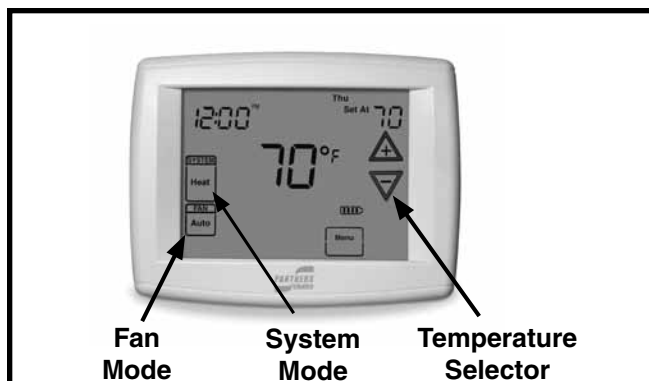

Figure 1. Digital Thermostat
1. Set the thermostat's system mode to COOL or AUTO and change the fan mode to AUTO. See Figure 1.
1. Set the thermostat's system mode to HEAT or AUTO and change the fan mode to AUTO. See Figure 1.
Change the thermostat's system mode to OFF and the fan mode to AUTO. See Figure 1. **NOTE:** The system will not operate, regardless of the temperature selector setting.
Set the thermostat fan mode to ON (Figure 1). The indoor blower starts immediately, and will run continually until the fan mode is reset to AUTO.